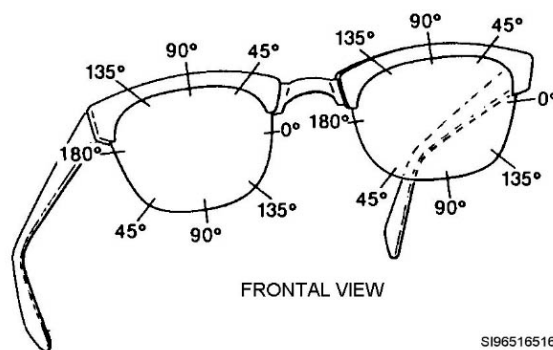

Figure 3-56. Frame front with axis meridians shown.
While looking at the spectacles from the front (i.e., as if they were on the patient), you rotate the lens CCW to increase the axis and CW to decrease the axis. Use figure 3-56 to help you visualize. Notice, it does not matter if it is the right or the left lens; you still rotate the lenses just as described. One way to remember which way to rotate the lens, think of it as a clock. If you want more time; that is, more axis, you turn the clock back (CCW); if you want less time (i.e., less axis) you turn the clock forward (CW).